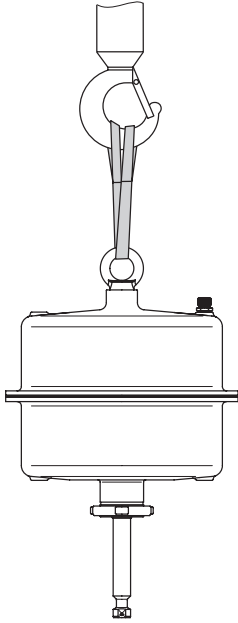

Fig. 4-5: Lifting point on the actuator
- Use a hook with safety latch (see Fig. 4-5) to secure the slings from slipping off the hook during lifting and transporting.
2. Attach a sling to the lifting eyelet/eyebolt or swivel hoist of the actuator and to the rigging equipment (e.g. hook) of the crane or forklift (see Fig. 4-5).